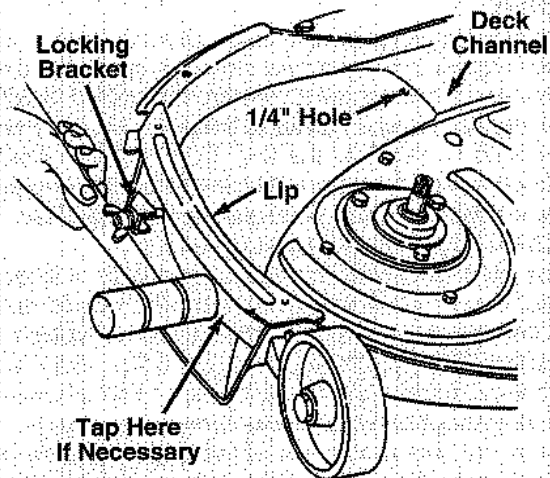

FIGURE 2.
- 9a. **Lawn tractors which have the 1/4" hole in the top of the deck.** Align the hole in the end of the baffle with the hole in the deck by inserting a screwdriver or thin pry bar through both of the holes, then prying the baffle to get it into position. Tapping the baffle assembly with a soft hammer or mallet in the location shown in figure 2 will help seat the baffle securely into the deck channel and aid in the alignment of the holes.
- 9b. **Lawn tractors which do NOT have the 1/4" hole in the top of the deck.** Tighten the wing nut at the locking bracket. Using a soft hammer or mallet, tap the baffle assembly a couple times in the location shown in figure 2 to seat the baffle securely in the deck channel. Drill a 1/4" diameter hole in the deck using the hole in the baffle as a guide. Secure the baffle to the deck in the same manner as instructed in section 9a.